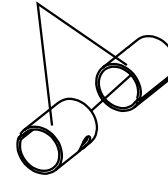

Figure 39. Bronze Bushings
5. Examine the bronze trowel arm bushings (Figure 39), and clean if necessary. Replace bushing if out-of-round or worn.